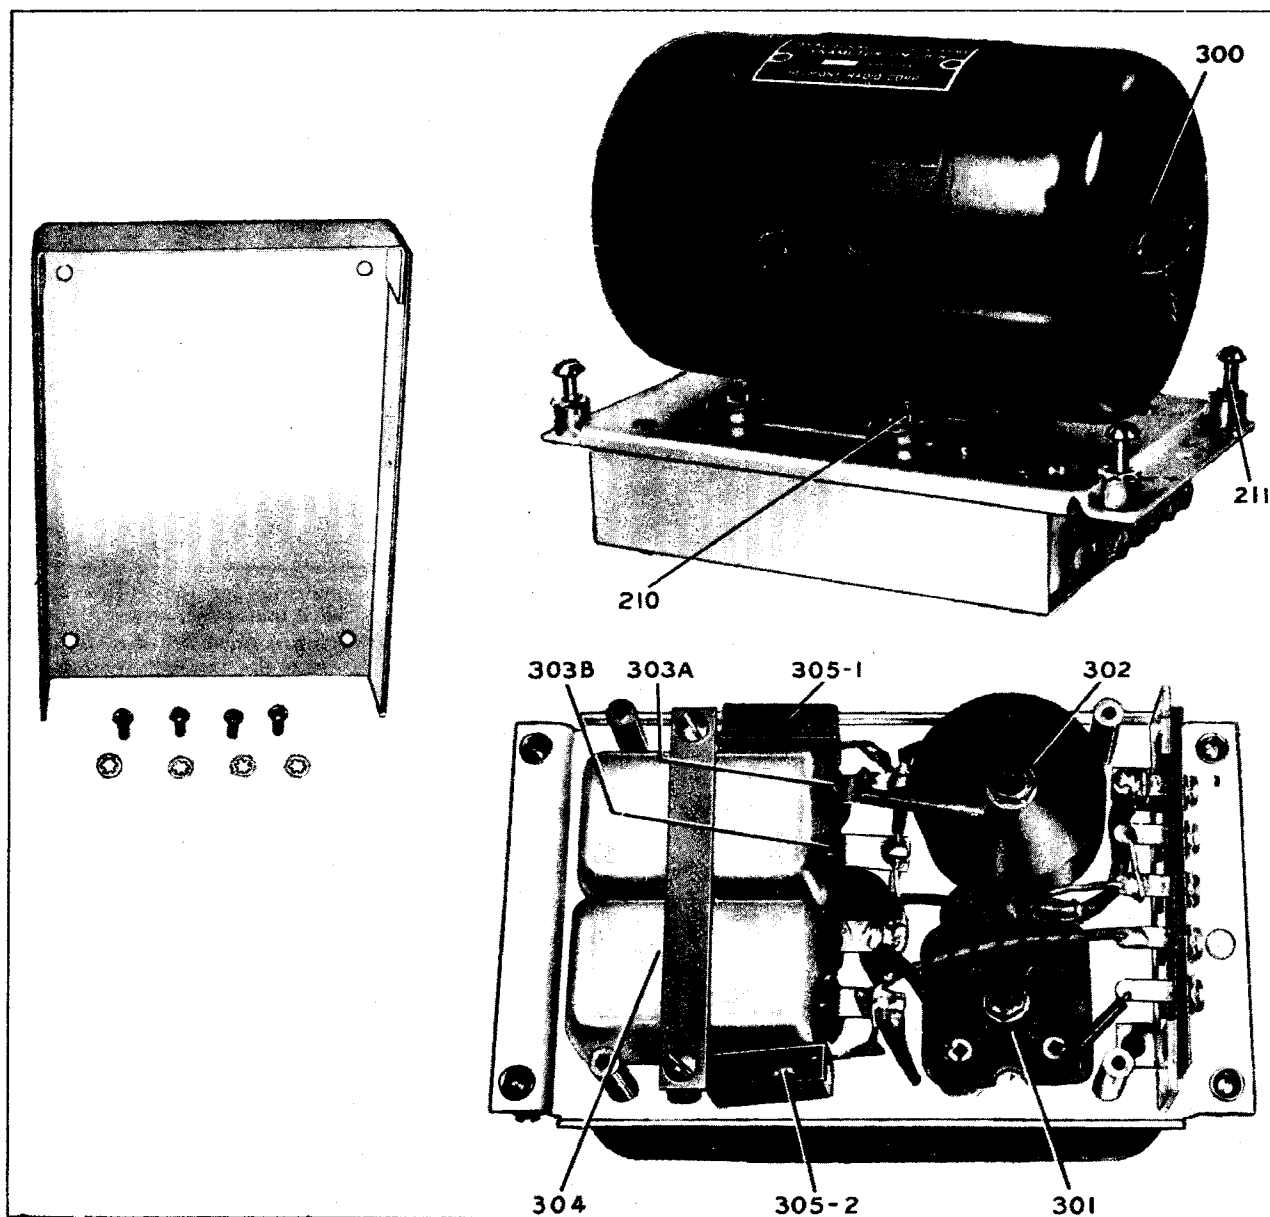
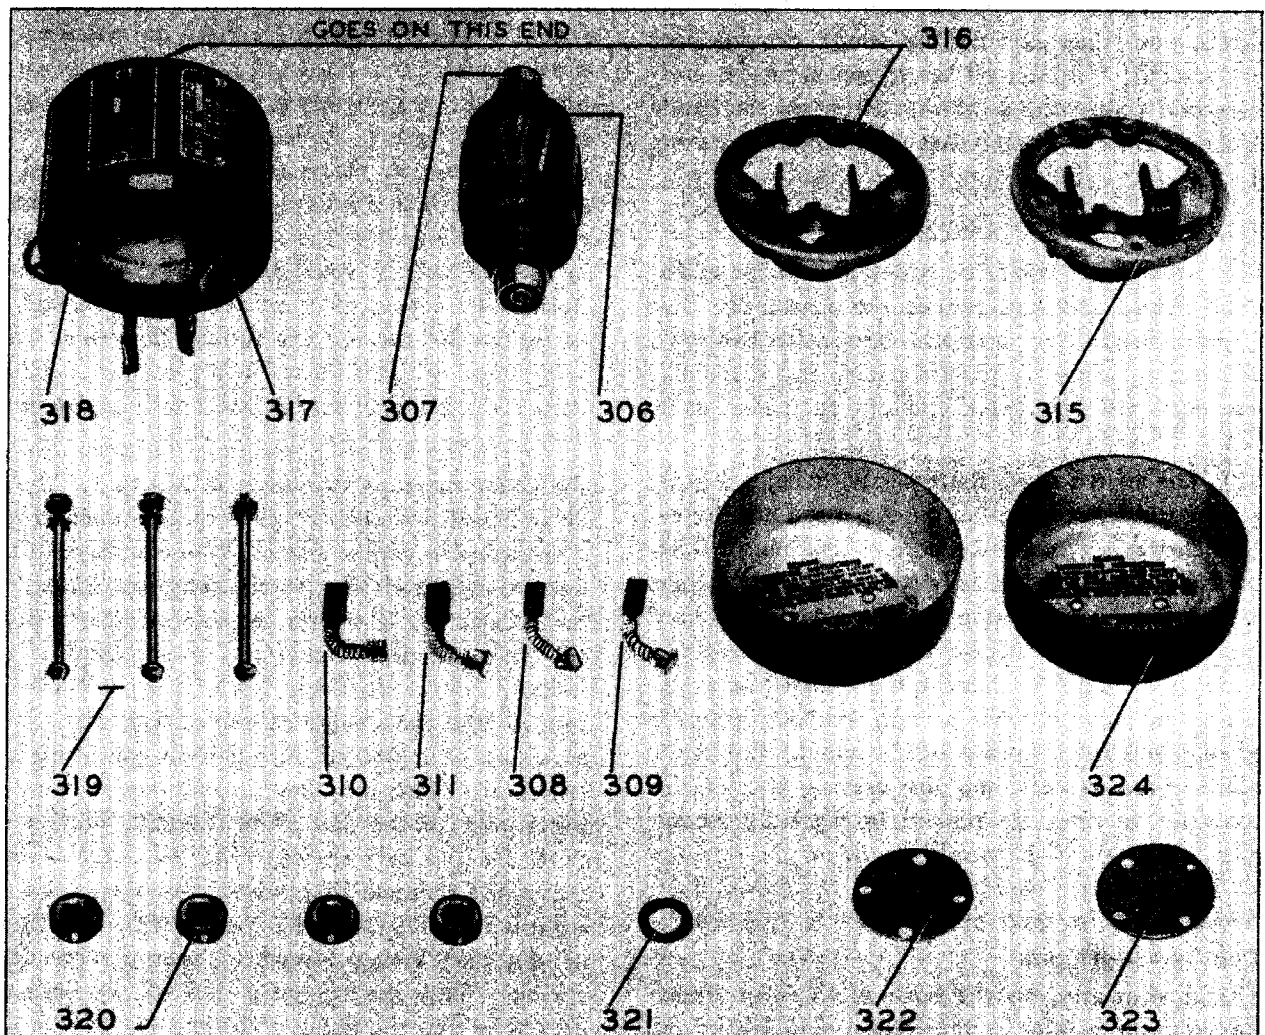

Figure 5-3. Dynamotor DM-28(*) or DM-24(*) and View Showing Filter Open
Figure 5-4. Dynamotor DM-28-(*) or DM-24-(*)—Disassembled
(1) The dynamotor and filter assembly is removable from the receiver chassis without disturbing other parts, provided the procedure outlined below is followed.
(2) Loosen the two thumbscrews on the receiver panel, and draw the chassis from the cabinet. Lay the chassis with top upwards on a smooth, flat surface, with the rear toward the operator. Loosen the five connector screws on the dynamotor terminal strip and withdraw the spade terminals beneath them.
(3) Loosen the four captive screws 211, Figure 5-3; which hold the dynamotor unit to the chassis. Remove the dynamotor and filter assembly from the receiver by grasping the dynamotor and lifting vertically.
(4) The filter portion of the dynamotor unit is made accessible by the removal of the filter unit cover located at the base of the dynamotor. (See fig. 5-3.)
(5) Lubricate the dynamotor at 1,000 hours or approximately six months of ordinary service. For ordinary and LOW temperature conditions use a mineral oil grease AN-G-15. For unusually high temperatures which are present in tropical climates use AN-G-5 grease. The directions for lubrication are stamped on the inside of the end-bell dust covers. Access to the bearings of the dynamotor is obtained by removing the dust covers after first cutting the safety wires and removing the retaining screws, then unscrewing the bearing end plates. Do not PACK the lubricant in these bearings.
(6) When necessary to replace the ball bearings or turn down the commutators, first remove the brushes from their cartridges. (See fig. 5-4.) Remove the nuts from the tie rods which hold the bearing end-bells, and pull the end-bells away from the